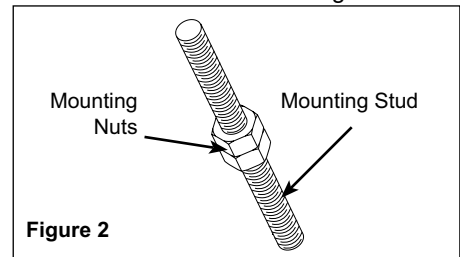

Figure 2
4. Insert three mounting studs into threaded holes on underside of winch. A small amount of thread locker can be used to secure studs in housing. Use two mounting nuts to help tighten studs into housing as shown in Figure 2.